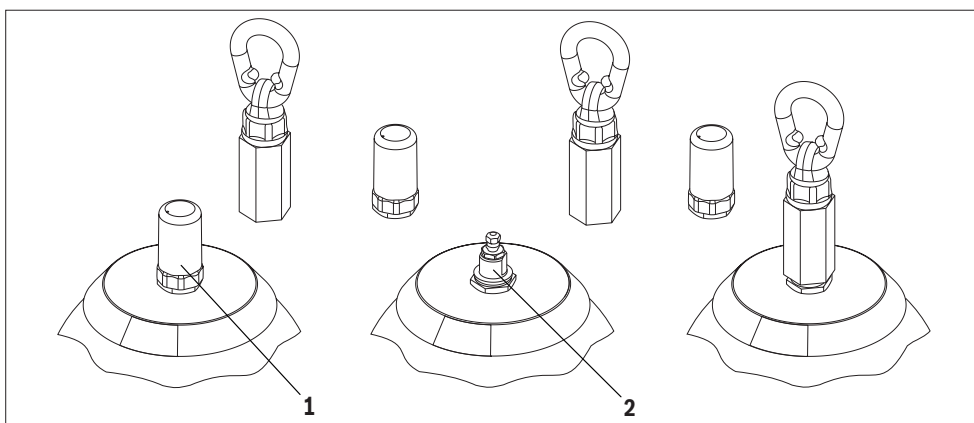

Fig. 6: Connecting a lifting device
1. Screw a lifting device onto the thread 7/8" 14 UNF-1A, see item 2 in Fig. 6. To do this, take off the gas valve cover cap, see item 1 in Fig. 6.